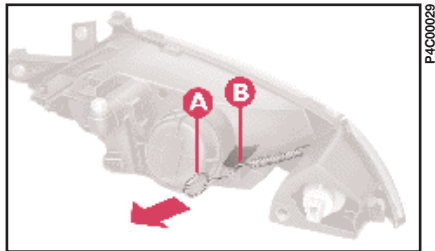

fig. 13
- 1) Release spring clip **A** (fig. 13) from support **B** by turning in the direction of the arrow.